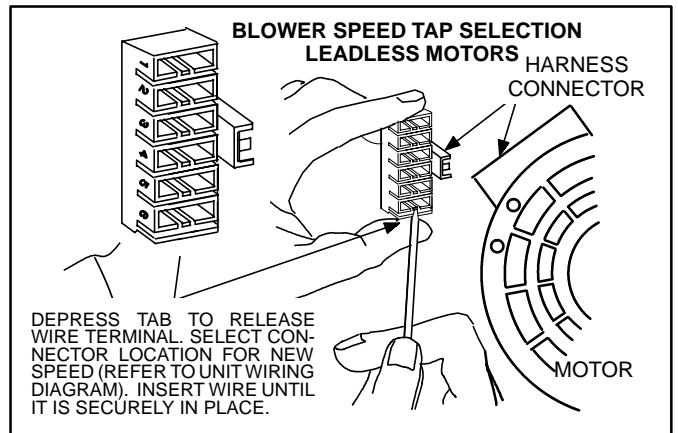

FIGURE 39
- 6 - Depress harness connector tab to release wire terminal. Select connector location for new speed (refer to unit wiring diagram). Insert wire terminal until it is securely in place. See figure 39.